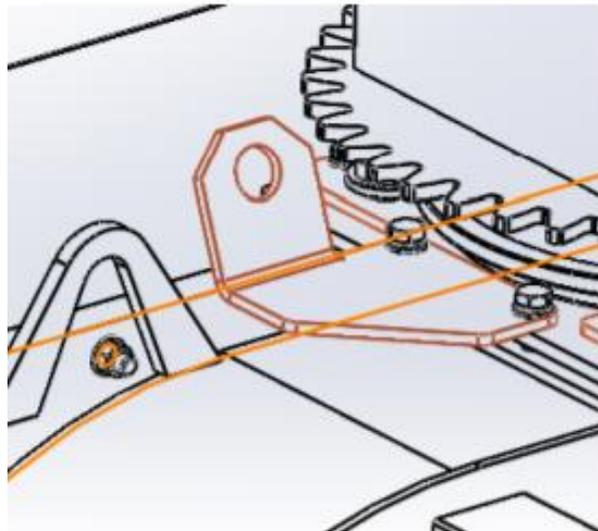

FIGURE 8: Front bracket installation location
- a. Locate the front bracket on the position shown in the Figure8, and then fix it with M10x25 bolt, plain washer 10 and spring washer 10.